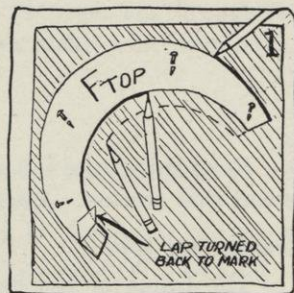

FIG. 1.
- Pin the pattern so that the part marked *under facing* is against the rough side of willow or buckram, in the most economical way, and with the front of the pattern in the corner of the material (see Figure 1). Putting the crinoline side of the buckram or willow, in other words the smooth side, against the head keeps the brim from cracking at headsize.
- Pencil larger outline, or edgewire; smaller outline, or headsize; turn back paper lap, and put a pencil mark to indicate the lap, if there is one (see Figure 1). If there is not, put a dotted line 1 inch outside of the seam to allow for a lap.
- Draw a dotted line 1 inch inside of headsize to allow for slashes, which will be turned up later, against headsize band (see Figure 1).